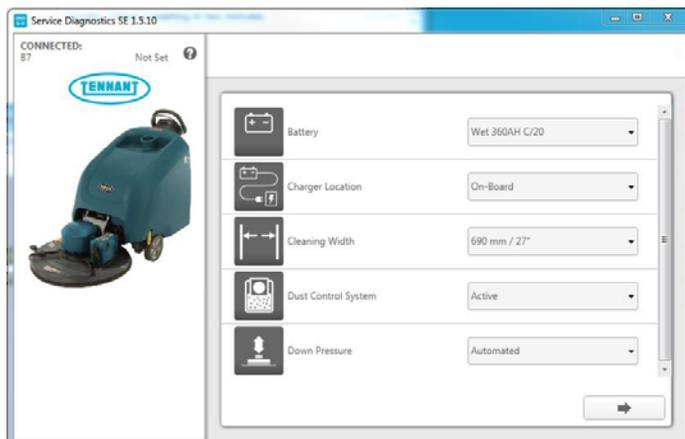

Fig. 6
- Carefully select all of the installed options on the machine (Figure 6). This may visually require inspecting the machine to confirm installed options. Press the arrow button to advance to next screen.